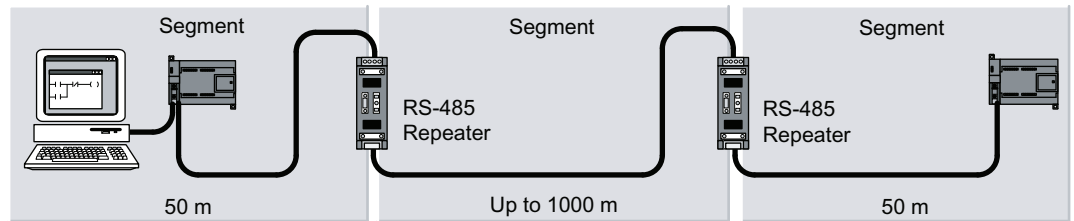

Figure B-2 Sample Network with Repeater
- To increase the length of a network: Adding a repeater to your network allows you to extend the network another 50 m. If you connect two repeaters with no other nodes in between (as shown in Figure B-2), you can extend the network to the maximum cable length for the baud rate. You can use up to 9 repeaters in series on a network, but the total length of the network must not exceed 9600 m.